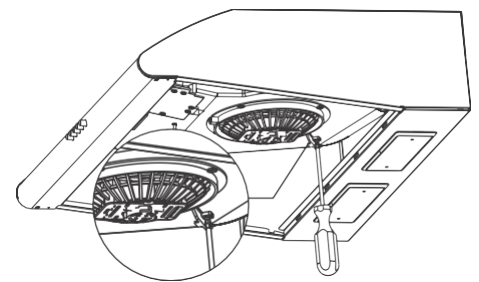

Fig. 7: short deflector
3. In place of the long air deflector you have just removed, install the short version of the air deflector (found in the installation accessories). (Fig. 7).